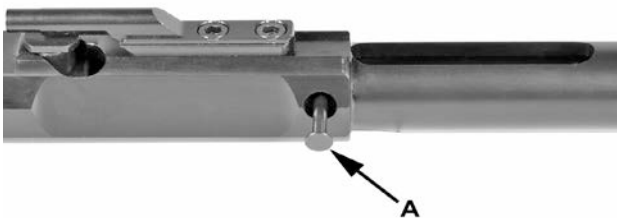

Figure 29
2. Remove the firing pin retaining pin (A). See figure 29.